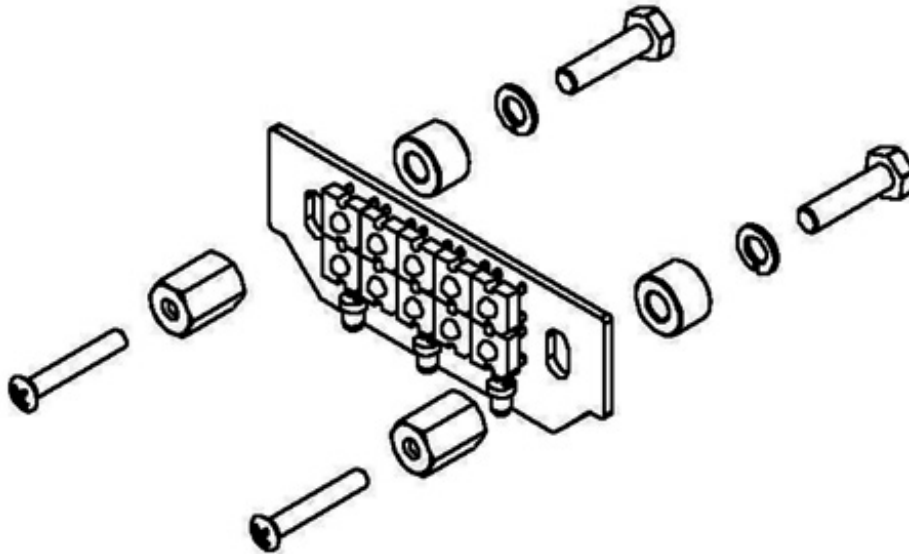

Figure 3
3. First install the spring lock washers on to the M4 Hex Screws, and then place them through the taillight bracket assembly. Place the backing plate from Step 2 onto the other side and thread the screws into the holes. Secure the screws firmly against the taillight bracket. Place an aluminum spacer onto each screw stud protruding from the backing plate, feed the wires of the LED Board through the backing plate wire hole, and then place the LED Board onto the screw studs. Please refer to Figure 3 for more detail.
5. Install the lens using the 2 Oval Head Screws provided in this kit; refer to Figure 3 for more details. Please refer to Table 1 below, which shows the wire colors and their function.